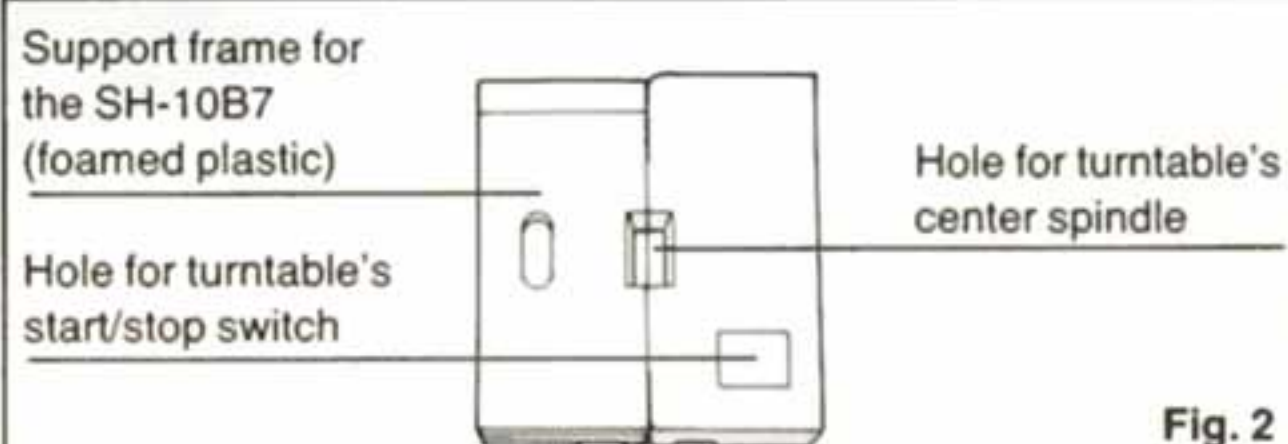

Fig. 2
The support frame for the base (foamed plastic material used for packing) should be saved for use when installing the SP-10MK3 or SP-10MK2(A) turntable. (Refer to Fig. 2.)
- 1 Place the support frame as shown in the figure (Fig. 2).